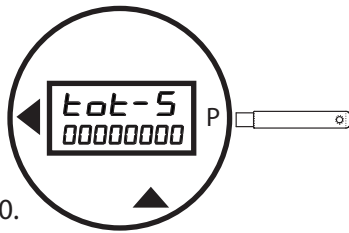

Figure 20.
- Pass the wand over the **P** until you reach the **tot-S** menu selection (Figure 20).